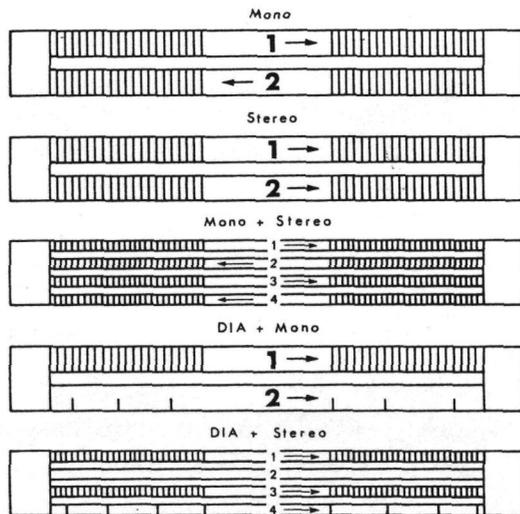

Fig. 4
In half-track operation slide synchronization may be only monophonic, but stereophonic in quarter-track operation. The differences between half-track and quarter-track operation as well as the location of the control track for slide projector operation are clearly shown in Fig. 4. Slide synchronization is possible only at the 9.5 or 19 cm/s (7½" or 3¾") tape speeds!
control pulses must be recorded on the lower track (see Fig. 4 "SLIDE + MONO") of the tape. Moreover, during playback through the power amplifier of a hi-fi system the volume of the control track channel must be turned down to zero in order to render the 1 kHz control pulses inaudible. On the other hand, if the quarter-track tape heads (Mount Z 411) are used, sound for the slide showing may be stereophonic (see Fig. 4 "SLIDE + STEREO"). It should be noted that only tape speeds 3% or 7½ ips may be used for recording the sound and control tracks for slide shows. Before starting to record, write a script detailing the order in which the slides are to be shown together with the commenting texts and the background music to be employed. Referring to the script, you may use the master control (5), when recording, to fade in and out the microphone input for the spoken comments and the radio or phono input for the musical background. To fade over from the microphone input to the radio or phono input, evenly turn the level of the microphone input down to zero (the mid-position of the master control) and evenly increase the level of the music input from zero to the full strength desired. If the spoken commentary is to be accompanied by a soft musical background, a mixer (like UHER Mix 500 A 124) must be used. Connect the mixer via UHER Stereo Lead K 541 to the RADIO socket of the SG 631 LOGIC. Read the instruction manual enclosed with the mixer for instructions on using mixer controls to fade inputs in, out and over. To check the order of the slide series, slide changing may be manually signalled while recording. With automatic slide projectors slide changes may be signalled with the projector's remote control unit, however. Once the recording of the sound track has been completed, the tape should be rewound and the slide magazine of the projector returned to its beginning position for recording the control track.